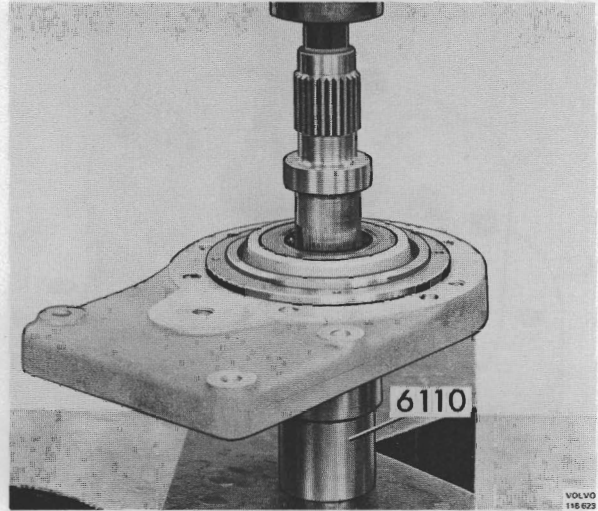

Fig. 48-22. Pressing in the shaft
4. Place the housing on 6110, see Fig. 48-22, and press in the input shaft.